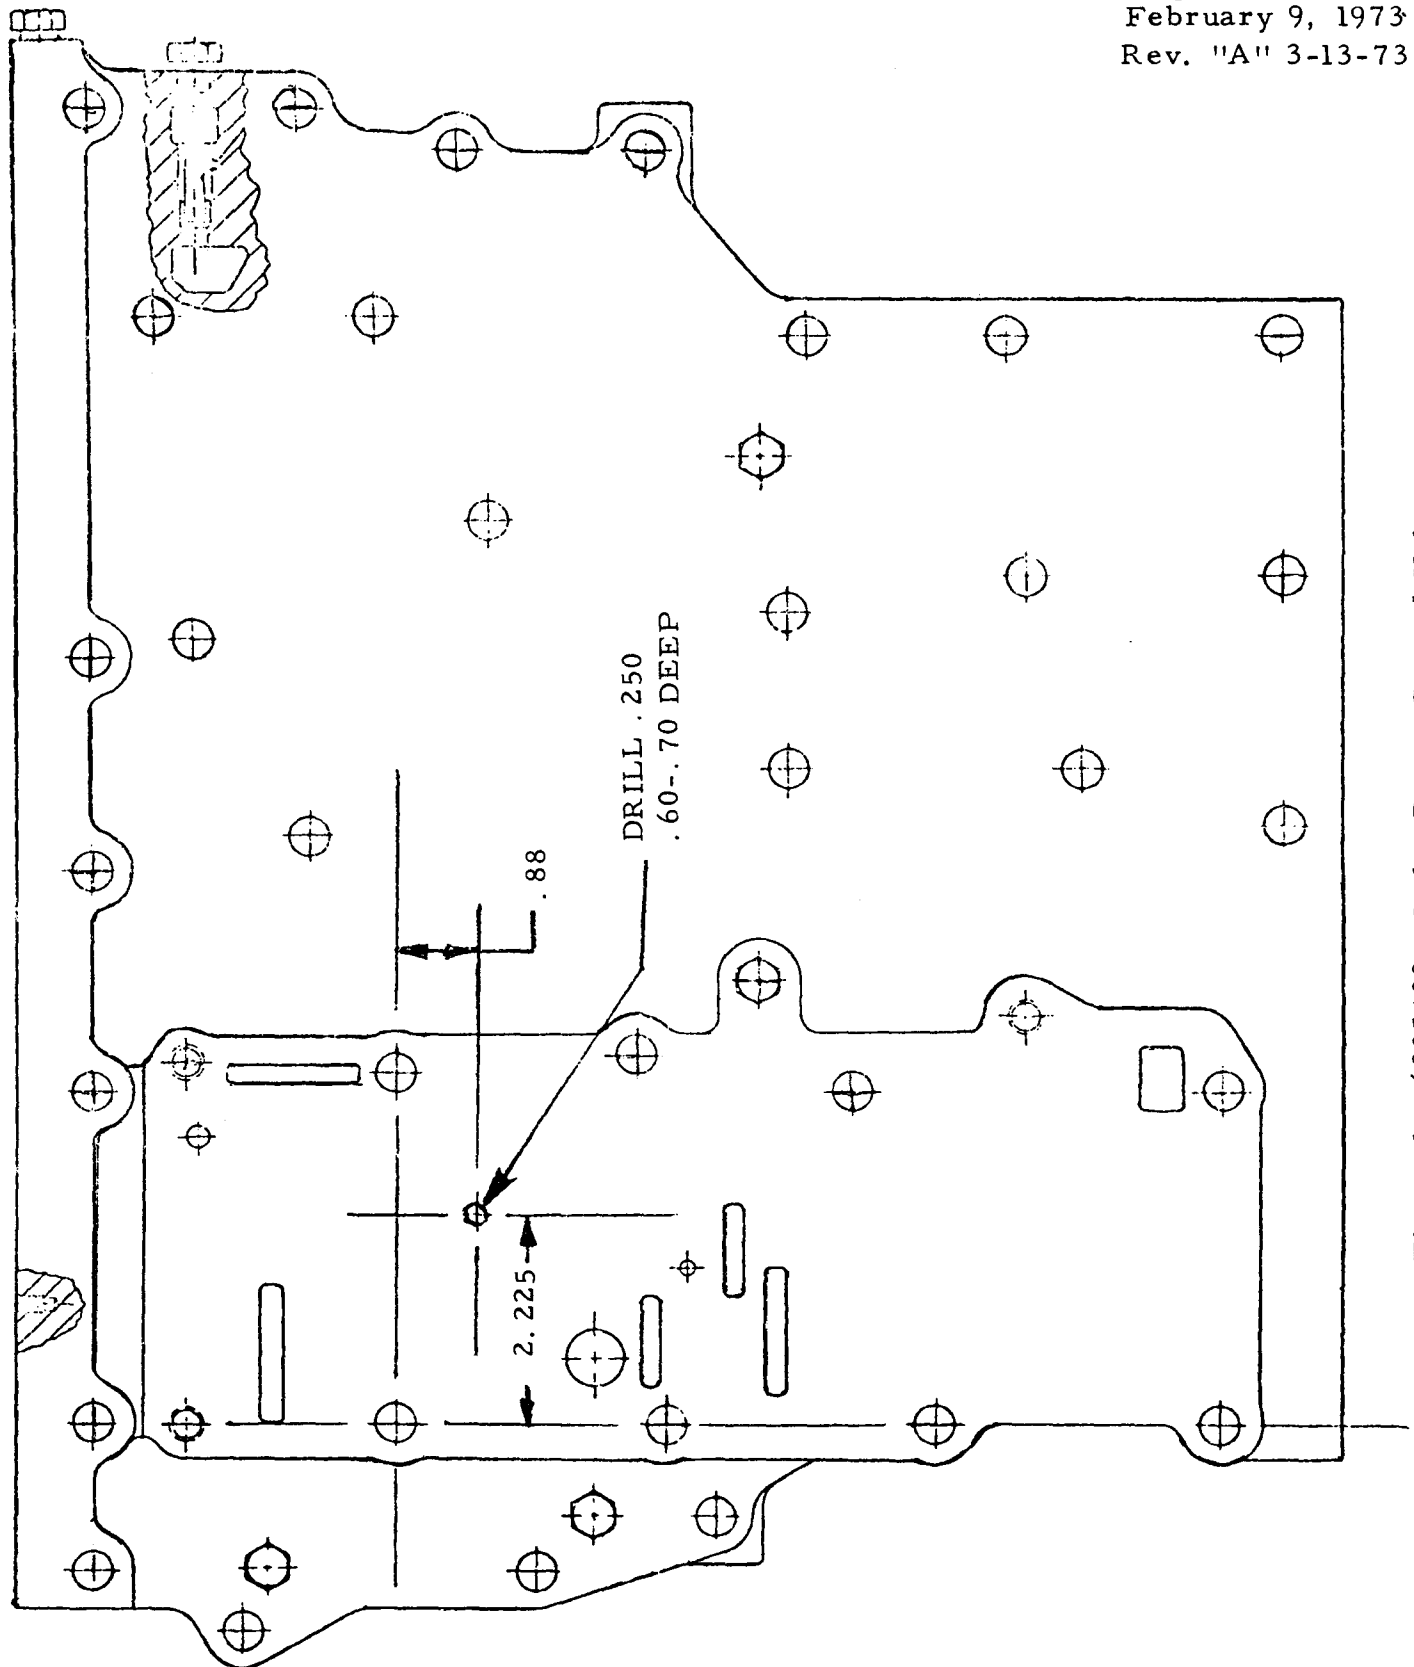

Figure 1. 6835408—Body, Range Control Valve
2. Rework control valve body assembly P/N 6835408 by drilling a 0.250 inch diameter hole to a depth of 0.60 to 0.70 inch at the location indicated in Figure 1. Be sure to remove all drill debris.